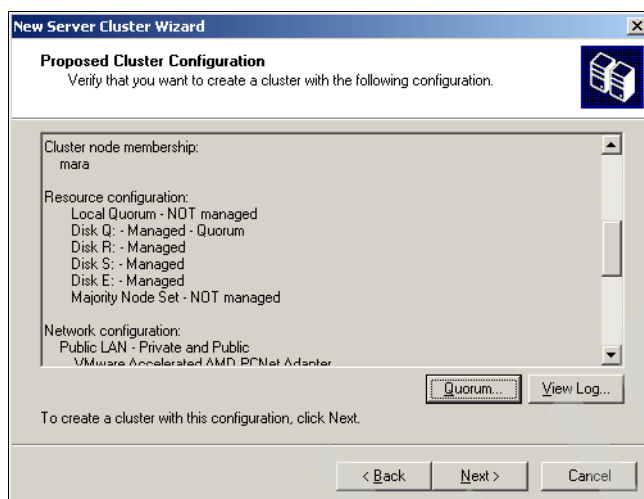

Figure 23-46 Cluster configuration proposal
9. Check the summary of the proposed cluster configuration, as shown in Figure 23-46. By default, the first shared disk that is found is used in the configuration as a quorum resource. Click **Quorum** if you want to use another disk as the quorum resource. Because our example is a two-node cluster, it is not possible to use the Majority Node Set; this requires at least three nodes in the cluster. Click **Next** to start the creation of the cluster.